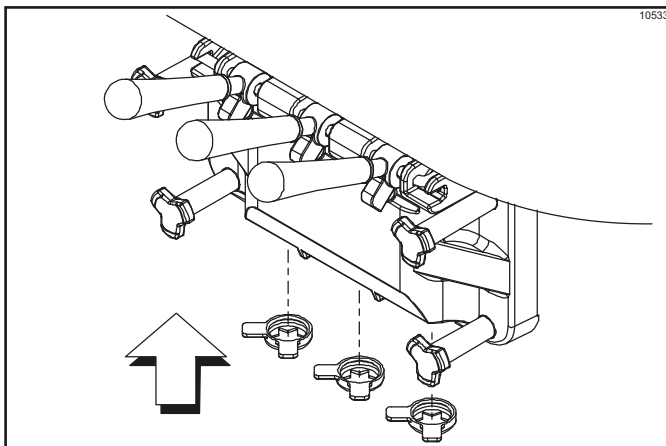

Figure 6-18
24. Snap the design caps over the bottom of the door spouts. (See Figure 6-18.)